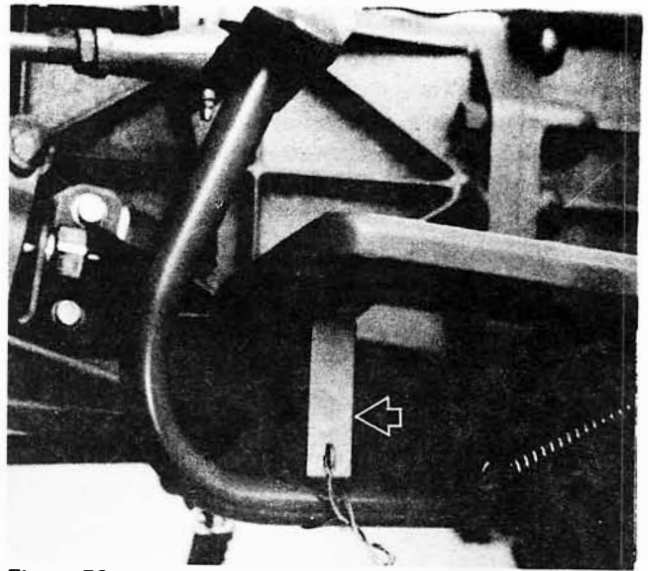

Figure 53 — Installing Pedal Spacer
10. Place pedal spacer between clutch pedal and foot plate to separate clutch disc from flywheel (Figure 53).